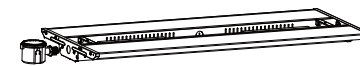

Figure 10
Step2.Knock out the side cover, mount the sensor on the side, do wiring accofing to instruction on sensor (Figure 10).